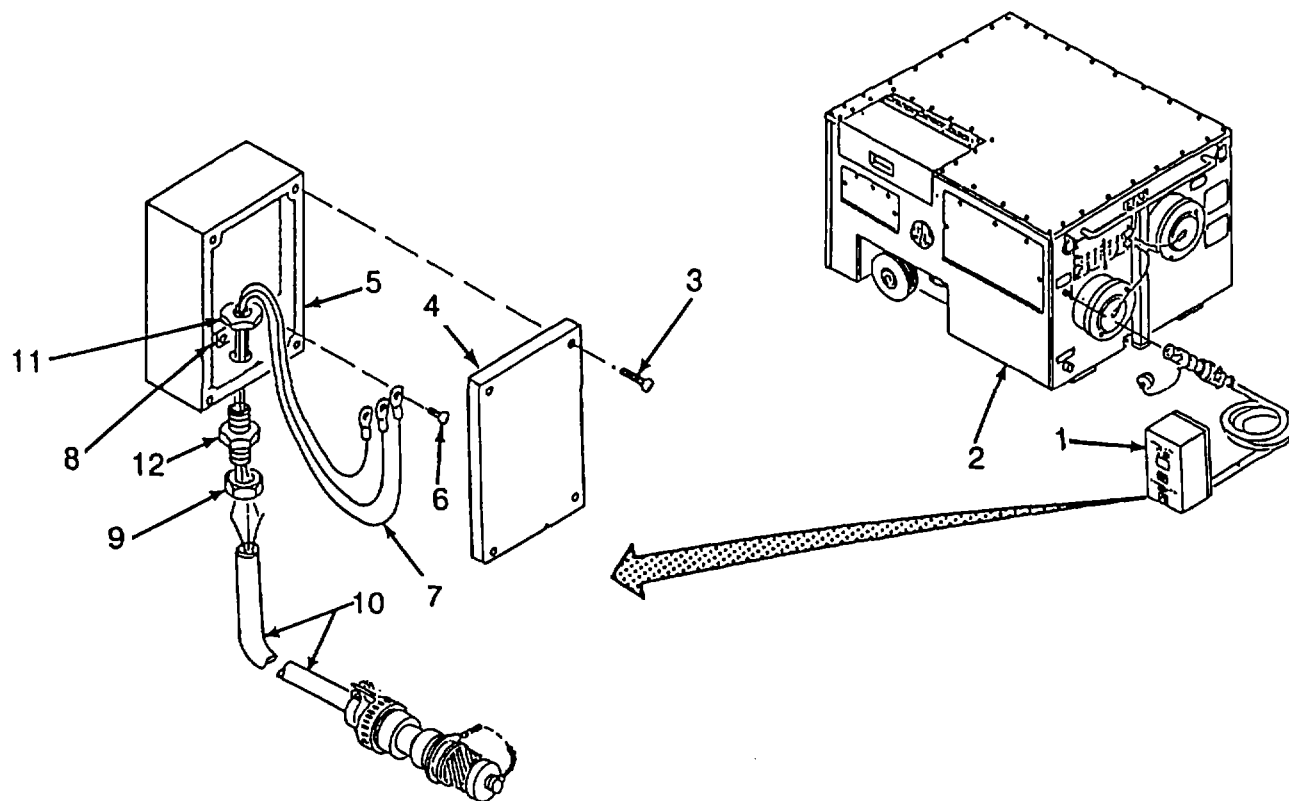

Figure 4-10. Remote Control Thermostat Disassembly
a. Disassembly (Refer to Figure 4-10)
- (1) Remove remote control thermostat (1) from unit (2).
- (2) Remove four screws (3) and cover (4) from rear of remote thermostat box (5).
- (3) Remove three screws (6), tag and remove three wires (7) from TB2 (8).
- (4) Loosen nut (9) and remove cable (10) from remote thermostat box (5).
- (5) Remove nut (11) and connector (12).